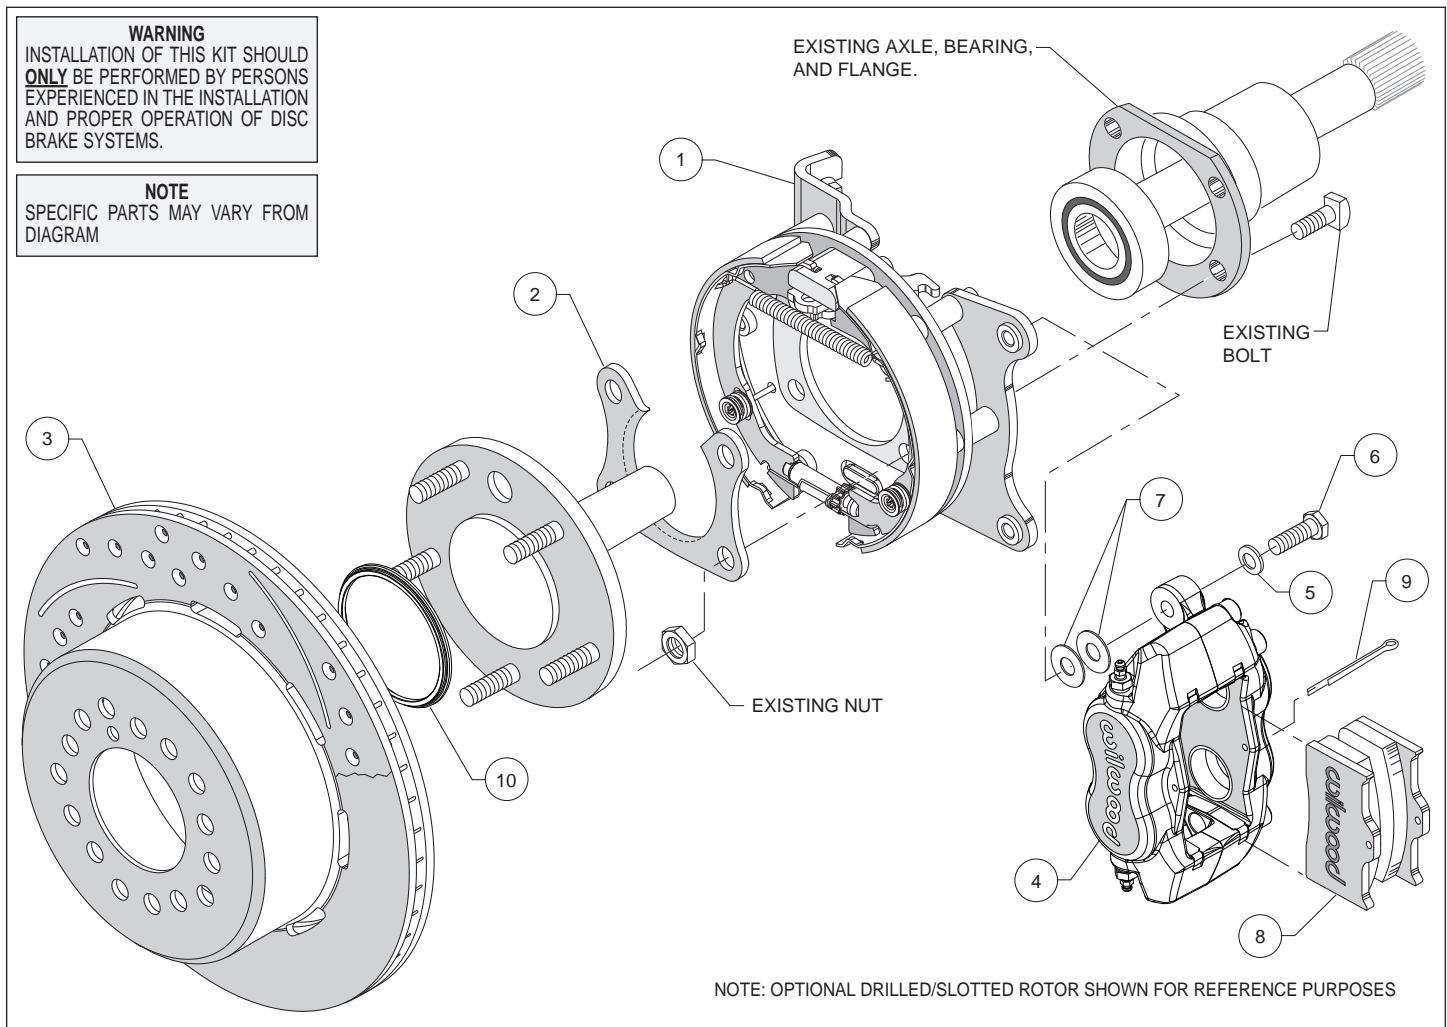
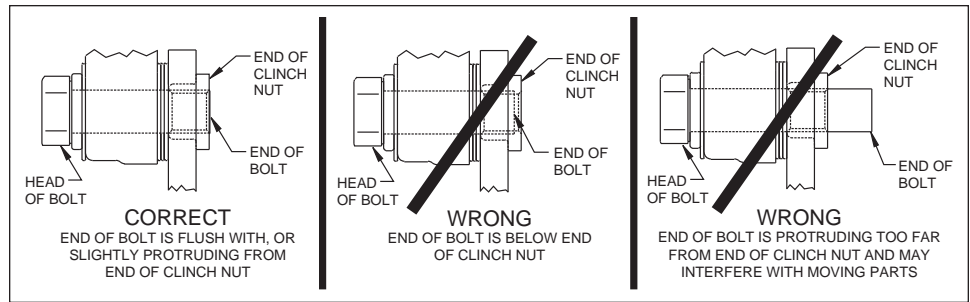

Figure 1. Typical Installation Configuration
Figure 5. Clinch Nut Engagement Diagram
Assembly Instructions (numbers in parenthesis refer to the parts list, and Figure 1 on the preceding pages): **CAUTION:** All mounting bolts must fully engage clinch nuts. Be sure to check that all bolts are either flush or protruding through flanged side of clinch nut after shimming, Figure 5.
- Orient the bracket assembly (1) as shown in Figure 1, and Photo 1, and slide it onto the axle. Insert the axle and bracket into the axle housing. Ensure that the bracket assembly backing plate fits flush against the axle housing flange.
- Install the bearing retainer (2) with the opening pointing upward and the lip facing inward (toward the bearing), as shown in Figures 1 and 4, and Photo 2. Secure retainer and bracket assembly to the axle housing flange using the Original Equipment Manufacturer (OEM) bolts and nuts, Figure 1. Apply red *Loctite*® 271 to the OEM bolt threads and torque to OEM specifications.
•Slide the rotor registration adapter (10) onto the axle register on the axle flange with the smaller O.D. facing toward the rotor/hat (3), Photo 3. Align the correct hole pattern in the rotor/hat with the stud pattern on the axle flange and slide into place, Figure 1 and Photo 4. **NOTE:** The rotor/hat must fit flush against the axle flange or excessive rotor run out may result. Install three lug nuts (finger tight) to keep the rotor/hat assembly in place while continuing with the installation. **NOTE:** Some OEM and after market axles come with stud sizes larger than 0.50" diameter. Verify stud size and have a qualified machine shop drill the bolt circle of the hat/rotor to the correct stud size, if necessary.
•**NOTE:** Please reference the caution statement at the beginning of the assembly instructions. Mount the caliper (4) onto the caliper mounting bracket (1) using bolts (6) and washers (5), as shown in Figure 1. Initially place two .035" thick shims (7) on each bolt between the caliper and the bracket, Photo 5. Temporarily tighten the mounting bolts and view the rotor (3) through the top opening of the caliper. The rotor should be centered in the caliper, Photo 6. If not, adjust by adding or subtracting shims between the bracket and the caliper. Always use the same amount of shims on each of the two mounting bolts. **NOTE:** The end of each bolt must be flush with or slightly protruding from the head of the clinch nut, as shown in Figure 5. If necessary place spare shims between washer (5) and caliper mounting ear to achieve the proper clinch nut engagement. Once the caliper alignment and clinch nut engagement are correct, remove the bolts one at a time, apply red *Loctite*® 271 to bolt threads, and torque to 40 ft-lb.